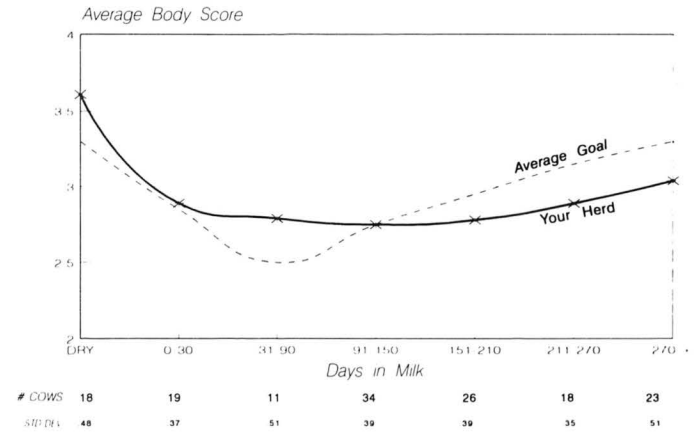

Figure 20. Body Condition Scores by DIM S-V Farms, 6 February 96.
4. Body Condition Scoring - See Figure 20.